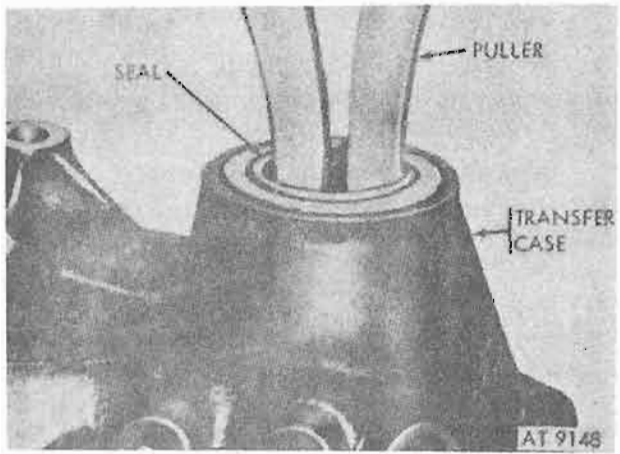

Figure 8-15. Removing parking brakedrum seal.
o. Using puller from puller kit (5120-313-9496) remove parking brake-drum seal from transfer case (fig. 8-15).